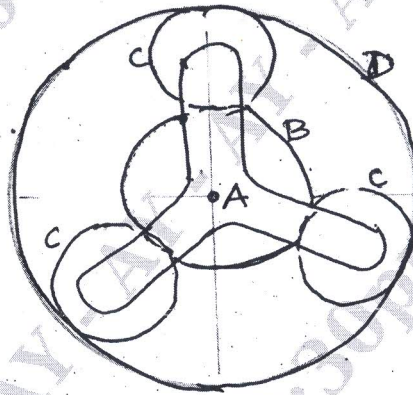

Fig.Q7
- 7 An epicyclic gear train of sun and planet type is shown in Fig.Q7. The pitch diameter of internally toothed ring D is approximately 228 mm and the module is 4 mm. When the ring is stationary the spider A which carries three planet wheels C of equal size is to make one revolution for every five revolution of the spindle carrying the sun wheel B. Determine the suitable number of teeth for all the wheel and the exact pitch circle of ring D. If a torque of 30 N-m is applied to the sun wheel B. What is the torque required to keep the ring stationary?